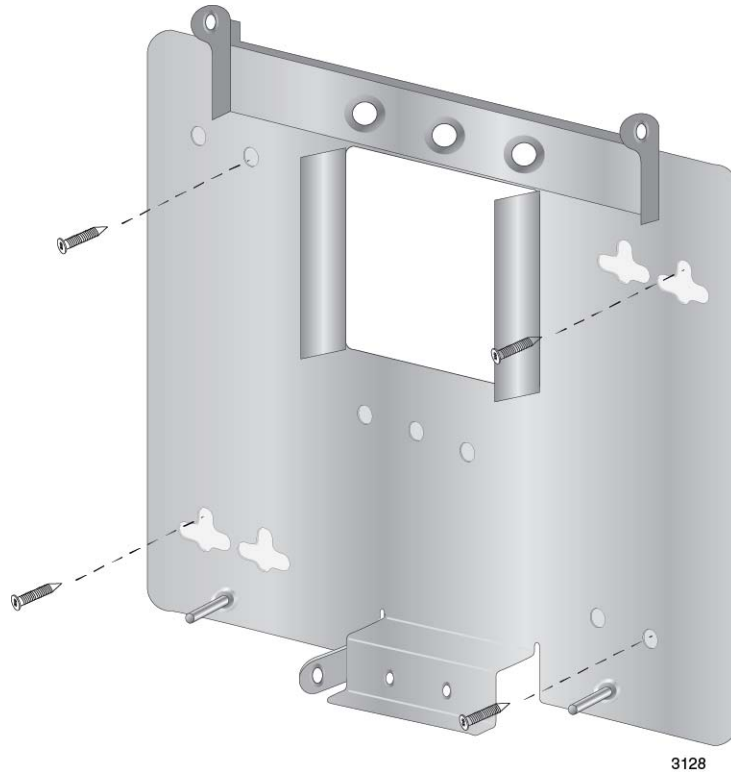

Figure 18. Attaching the Bottom Panel to the Wall or Ceiling
4. Have someone hold the bottom panel at the selected wall or ceiling location while you secure it to with four self-tapping screws (not provided with the access point). Refer to Figure 18 on page 42.